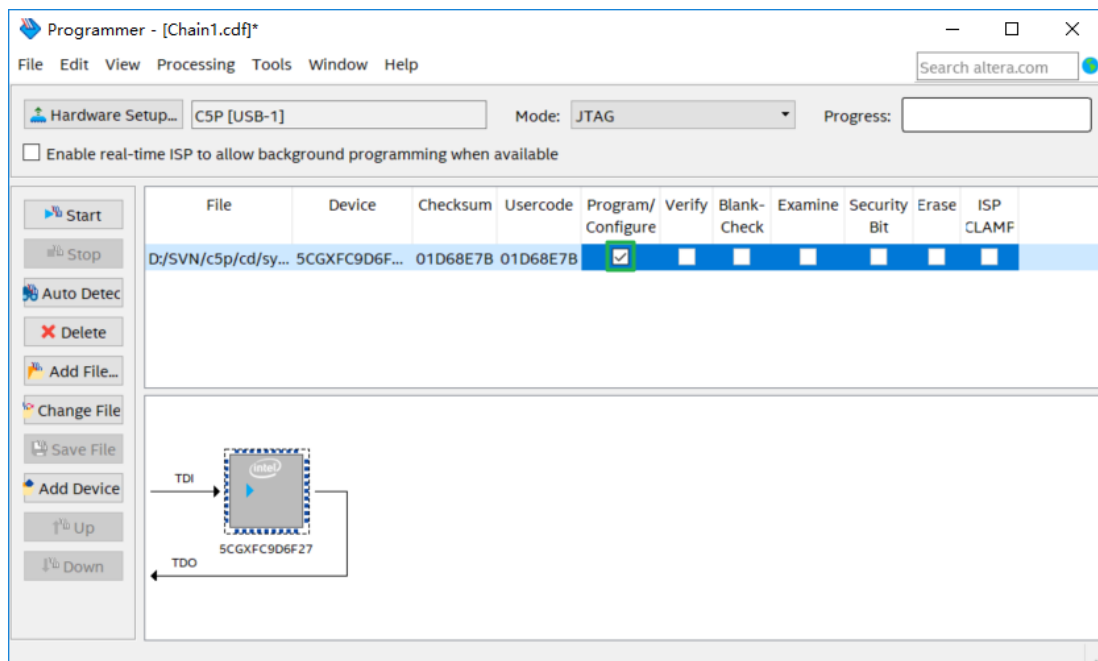

Figure 3-7 Program .sof file into the FPGA device
6. Click “Program/Configure” check box and then click “Start” button to download the .sof file into the FPGA device, as shown in **Figure 3-7**.